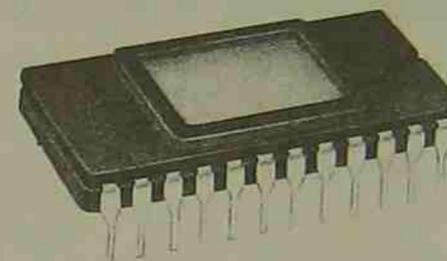

Figure 3-6 Typical UVPROM or EPROM Memory Chip
**UVPROM-EPROM** Ultra Violet Programmable Read Only Memory is ideally suited when program storage is to be semipermanent, or additional security is needed to prevent unauthorized program changes. The UVPROM chip is also referred to as **EPROM** (Erasable Programmable Read Only Memory) (Figure 3-6). The EPROM chip has a quartz window over a silicon material that contains the electronic integrated circuits. This window is normally covered by an opaque material, but when the opaque material is removed and the circuitry exposed to ultraviolet light, the memory content can be erased. Once erased, the EPROM chip can be reprogrammed, using a special programmer. After programming, the chip window must once again be covered with an opaque material, such as electrician's tape, to avoid undesirable alteration of the memory.